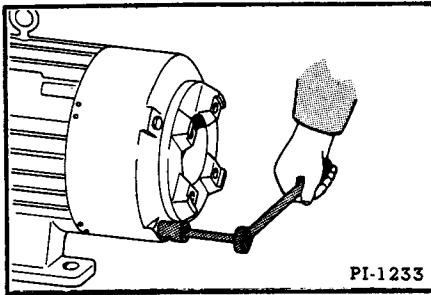

Fig. 158 Attaching Bell Housing to Motor
8. Attach the bell housing to the motor (Figure 158). Draw the mounting screws down evenly, but not too tightly.